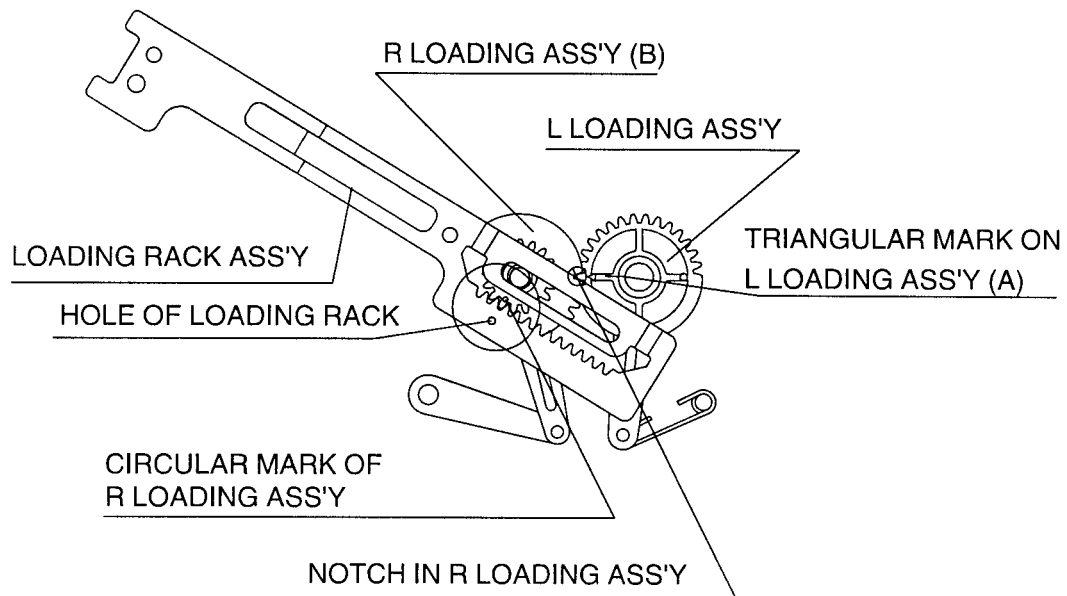

Fig.4-5 DATUM POSITION OF LOADING RACK ASS'Y & R/L LOADING LEVER ASS'YS
- e. Make sure that the triangular mark "A" on the L LOADING ASSEMBLY is aligned with the notch "B" on the R LOADING ASSEMBLY as shown in Fig. 4-5.
- f. Make sure that the teeth of the LOADING RACK ASSEMBLY are aligned with those of the R LOADING ASSEMBLY so that the hole of the LOADING RACK ASSEMBLY aligns with the circular mark on the R LOADING ASSEMBLY, as shown in Fig.4-5.